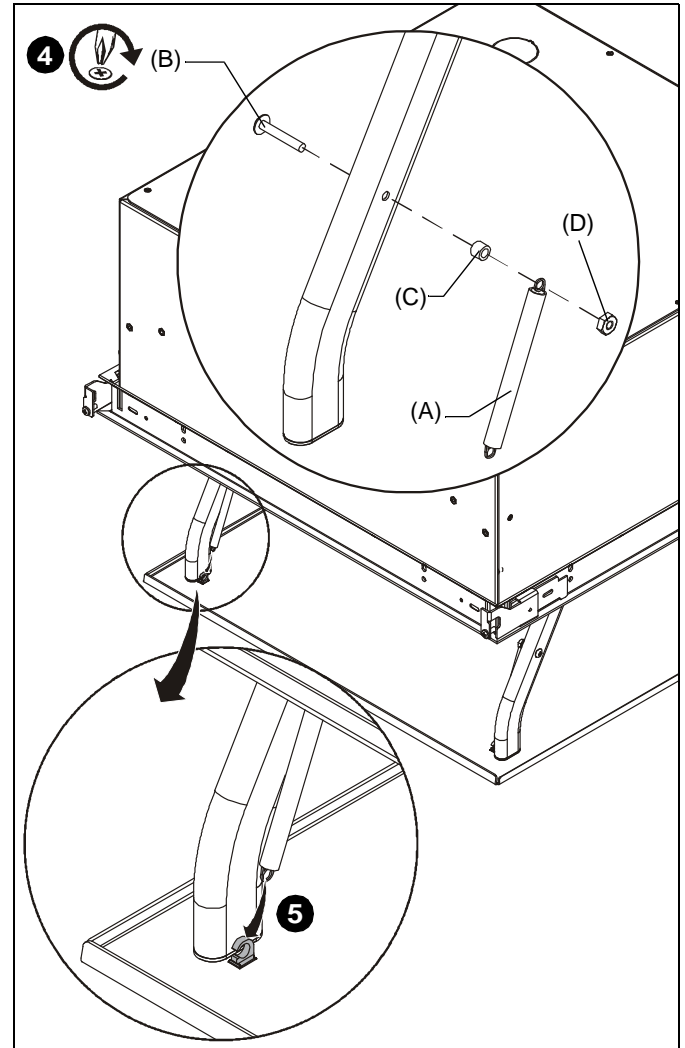

Figure 2
3. Remove spring assembly from SL220 leg. (See Figure 2)
4. Attach new spring (A) to SL220 leg using one 08-32 x 1" Phillips tapping machine screw (B), one .280x.177x.215 spacer (C) and one 08-32 hex nut (D). (See Figure 2)
5. Hook eye of spring to hook on ceiling pan. (See Figure 2)